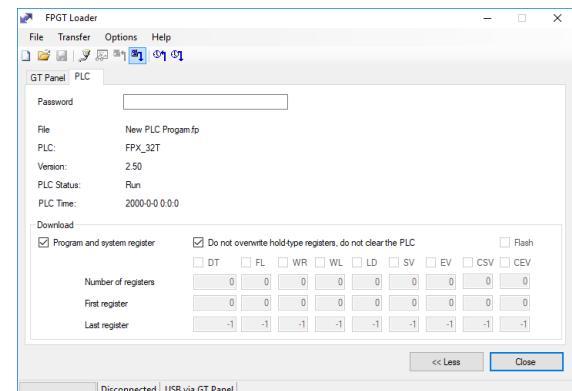

Figure 5
11) The new program is now installed, and the PLC is running. (Figure 5)